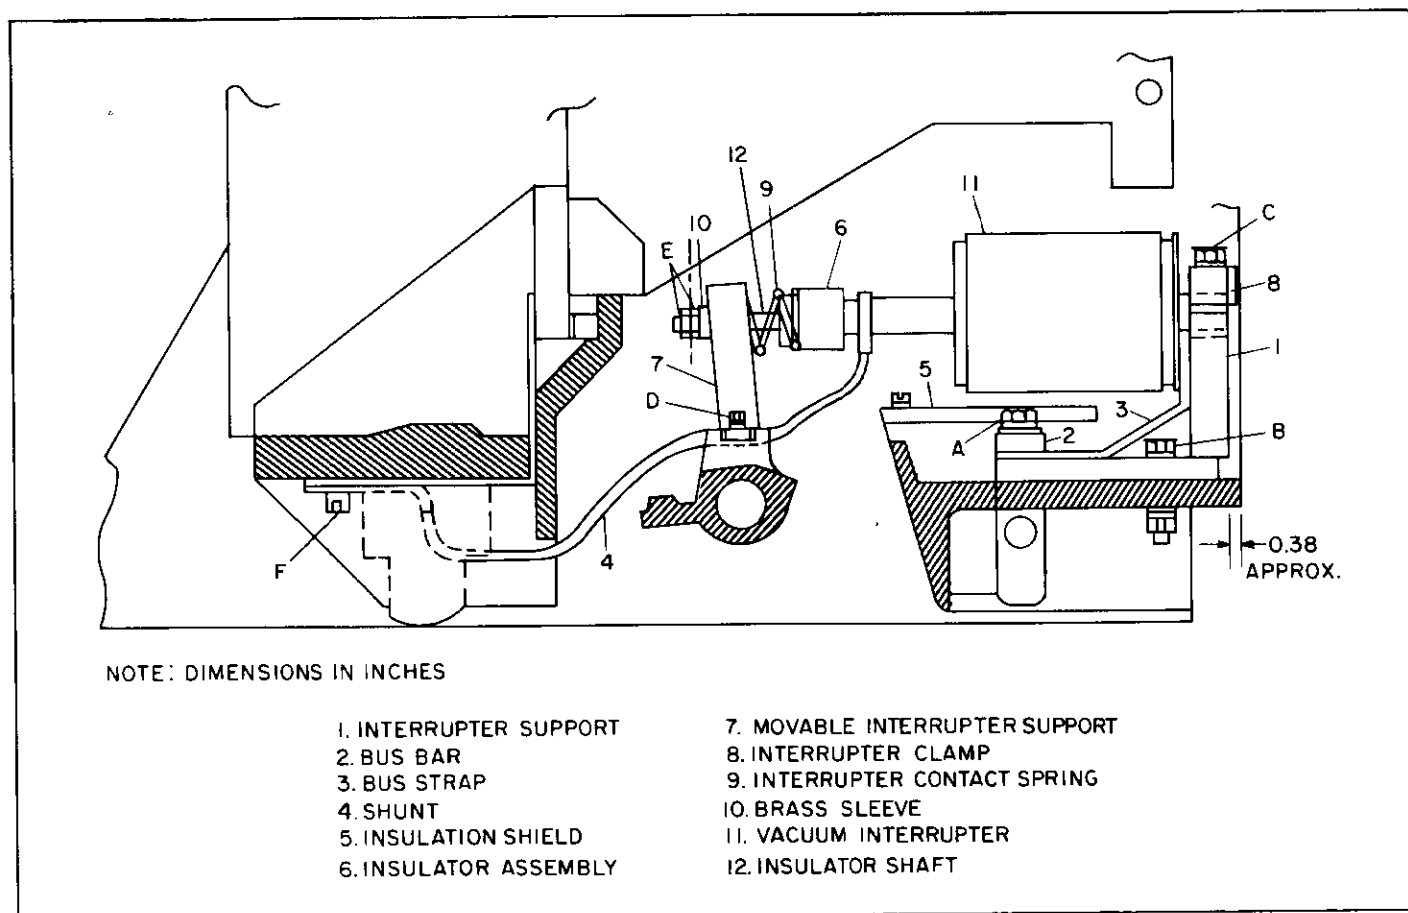

Figure 11. Adjustment and replacement of the vacuum interrupter
To replace and adjust the Vacuum Interrupter, the following steps are recommended. See Figure 11.
- A. Position shunt of interrupter assembly in the recess in the contactor shaft. Insert shaft of insulator assembly thru movable interrupter support and position assembly in contactor, as shown in Figure 11.
F. Interrupter contact gap adjustment. See Figures 11 and 12.